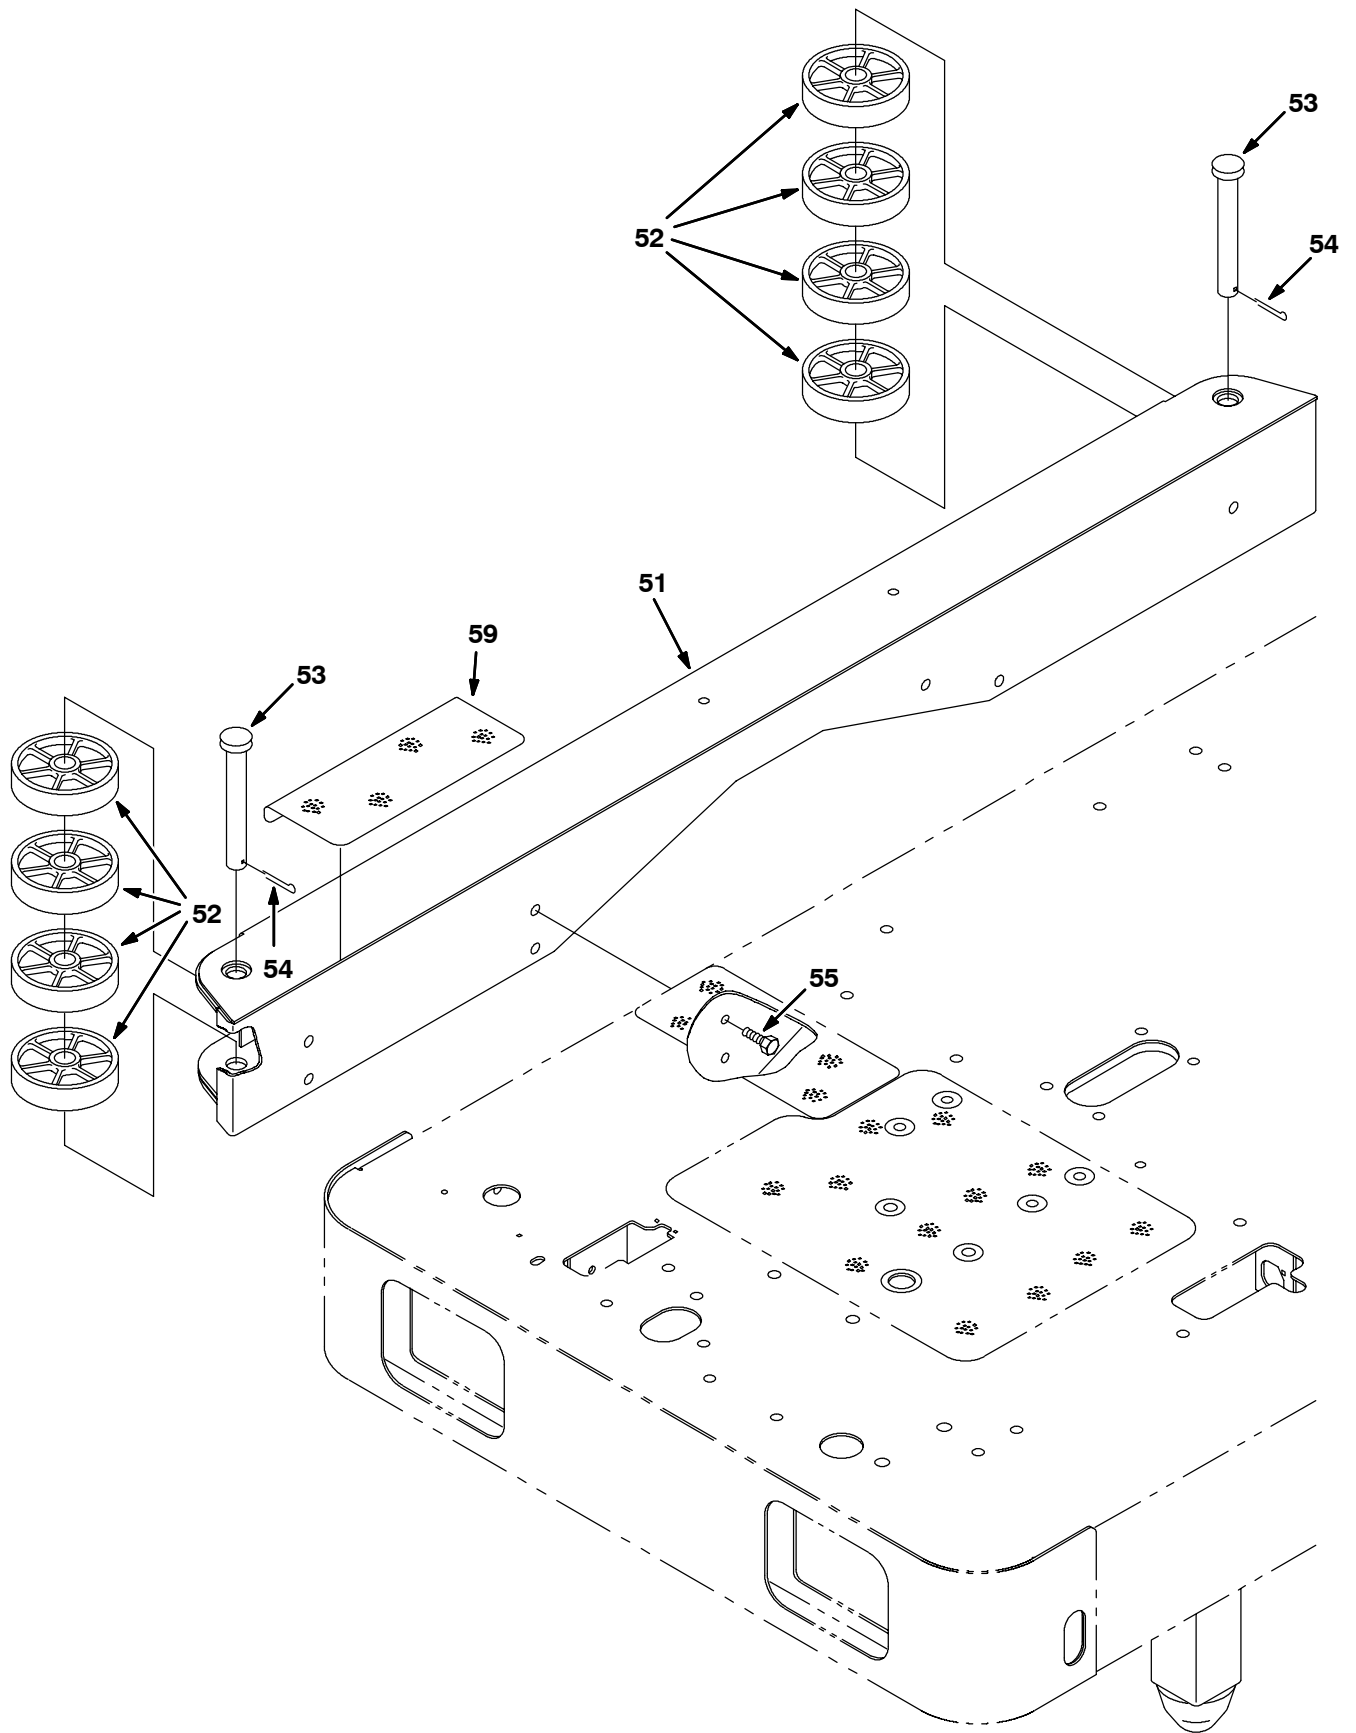
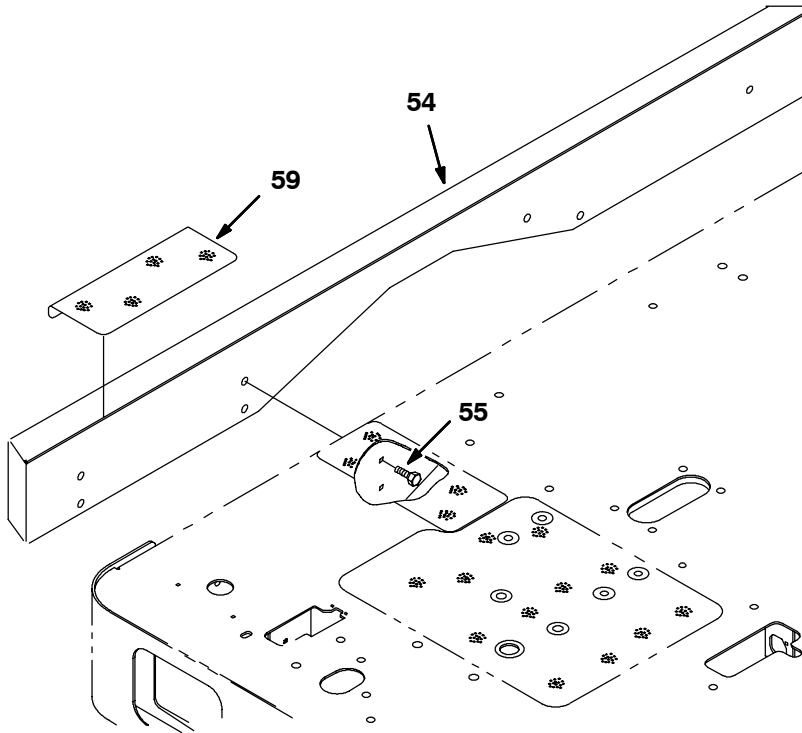

FIG. 9 Rollout Battery Side Bumper Group 900mm (36in)
FIG. 10 Rollout Battery Side Bumper Group 700mm (28in)
2. Remove and set aside all the battery wire assemblies and the battery wire harness. Remove the batteries and foam spacers from the machine and set aside. Refer to Fig. 10.
4. Mount the rollout battery bumper (51) to the machine with hex screws (55). Refer to Fig. 9 or Fig. 10.
5. Mount the wall roller wheels (52) to the 900mm (36 inch) rollout battery bumper (51) with the clevis pins (53) and cotter keys (54). Refer to Fig. 9.